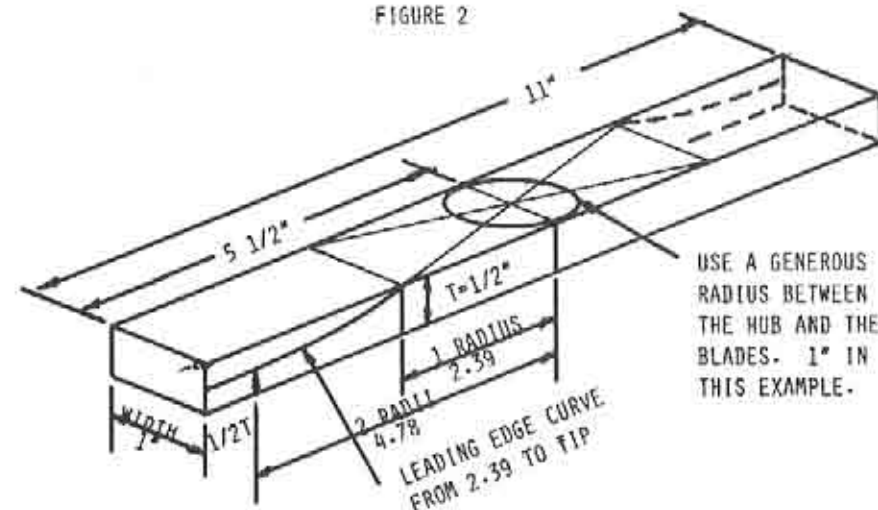

FIGURE 3
**Five:** Lay out the propeller on the front face of the block, as shown in Figure 3.